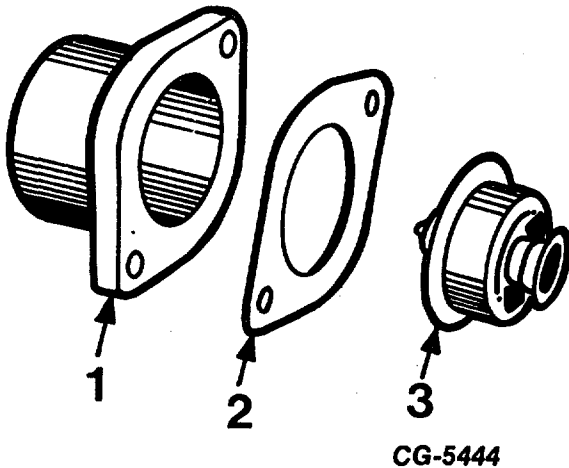

Fig. 152 Exploded View of Thermostat, Gasket and Engine Water Outlet
39. Install thermostat in crankcase and place engine water outlet gasket on crankcase, Figure 152. Then secure engine water outlet to crankcase with two bolts and lockwashers according to specified torque. See "Torque Chart."